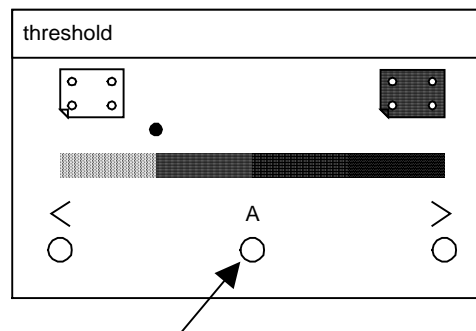

Figure 1. Threshold Panel
3. Within 60 seconds of entering the Test Mode, press the **A** key on Threshold Panel (Figure 1).